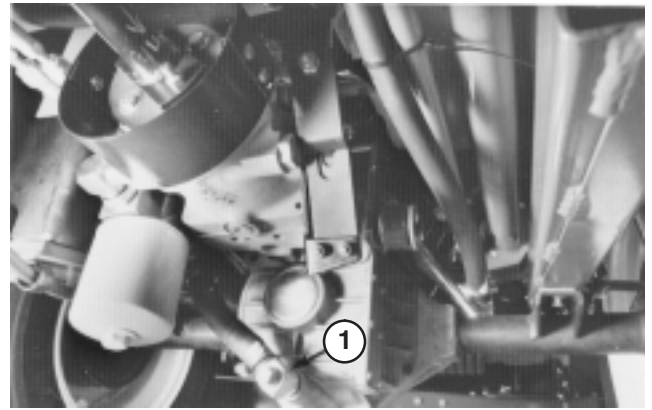
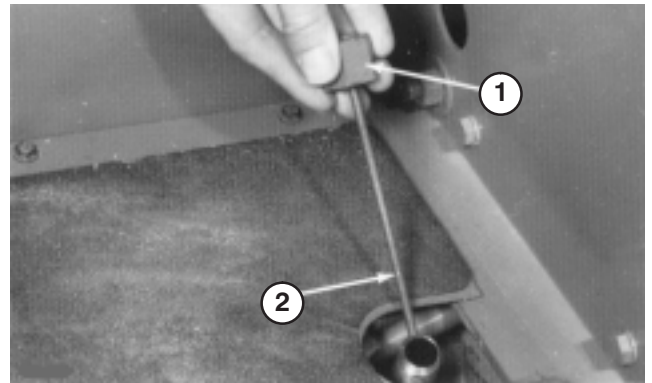

Figure 68
Figure 69
4. Remove drain plug from fitting between axle housing and oil filter and allow oil to flow into drain pan (Fig. 68).
6. Install drain plug in fitting between axle housing and oil filter (Fig. 68).
7. Remove dipstick from axle filler tube (Fig. 69) and fill axle to proper level with correct type and viscosity oil recommended for expected ambient temperature conditions; refer to table above.
9. Leave machine set for two additional minutes, then remove dipstick and check oil level in axle (Fig. 69). If level is low, add oil until level matches groove in dipstick (Fig. 69). If level is too high, remove drain plug (Fig. 68) and drain oil until oil level matches groove in dipstick.